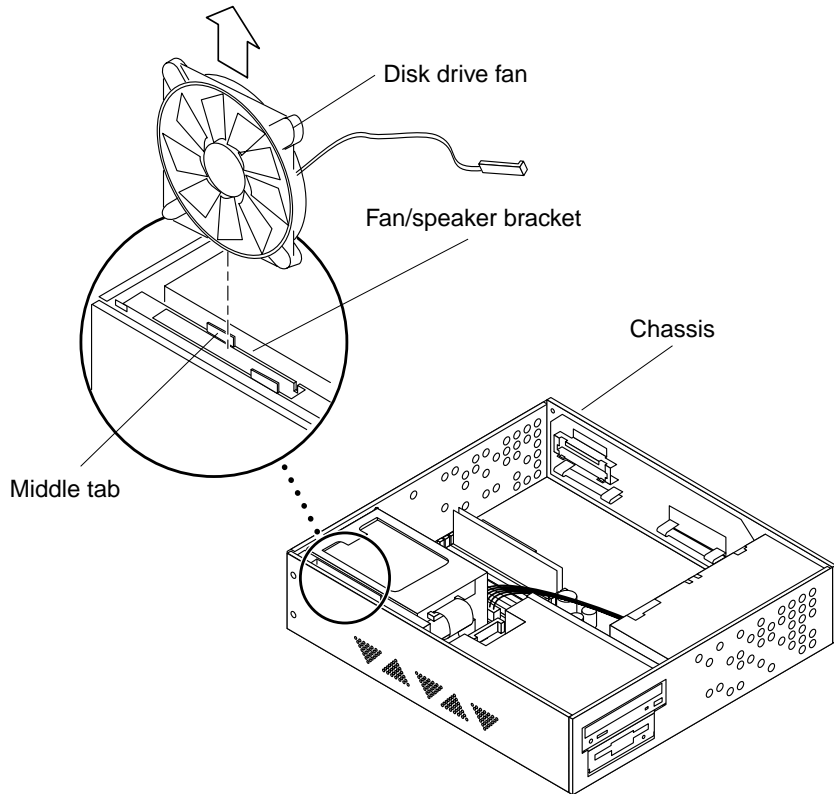

FIGURE 8-5 Disk Drive Fan
5. Prepare to remove the fan assembly as follows FIGURE 8-5: